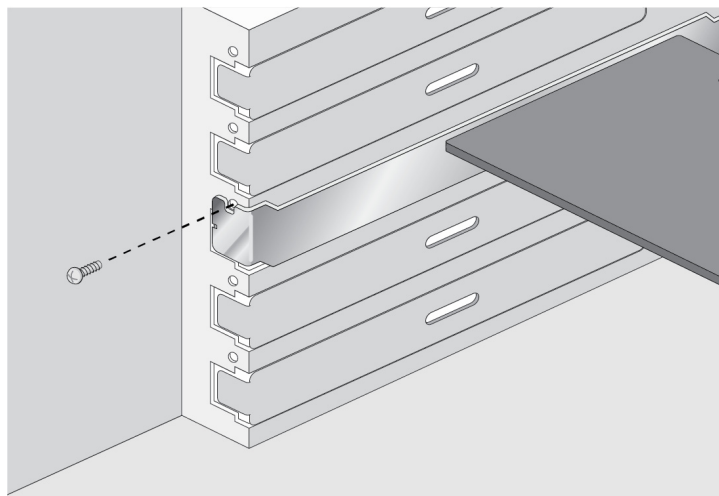

Figure 14. Securing the Adapter Card
7. Secure the network adapter card to the chassis with a Phillips-head screw (not provided) as shown in Figure 14 on page 37.